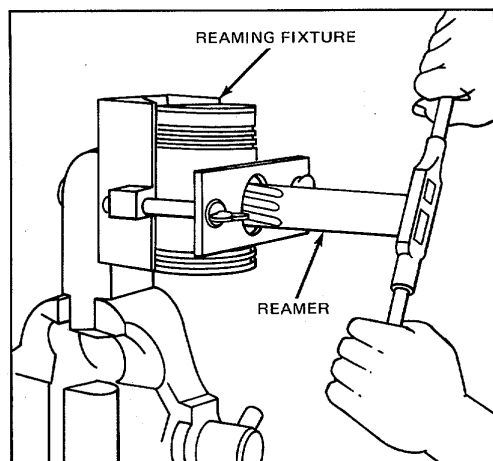

Figure 7. Reaming Piston Pin Bushings
- a. Clamp reaming fixture J 5273 in a vise (Fig. 7). Then insert guide bushing J 4970-5 in the fixture and secure it with the setscrew.
- d. Ream the bushings (Fig. 7). Turn the reamer in a clockwise direction only when reaming or withdrawing the reamer. For best results, use only moderate pressure on the reamer.